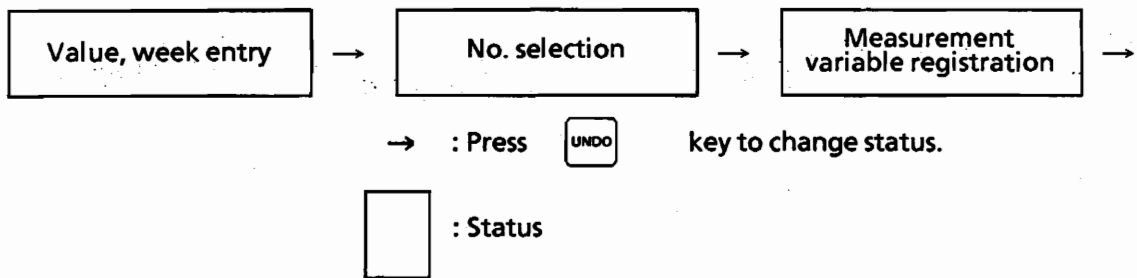

Fig. 9.4.9-2 Status Transition by Pressing  Key
-  . . . Press this key to erase the input data and return to the previous status, as shown in Figure 9.4.9-2.